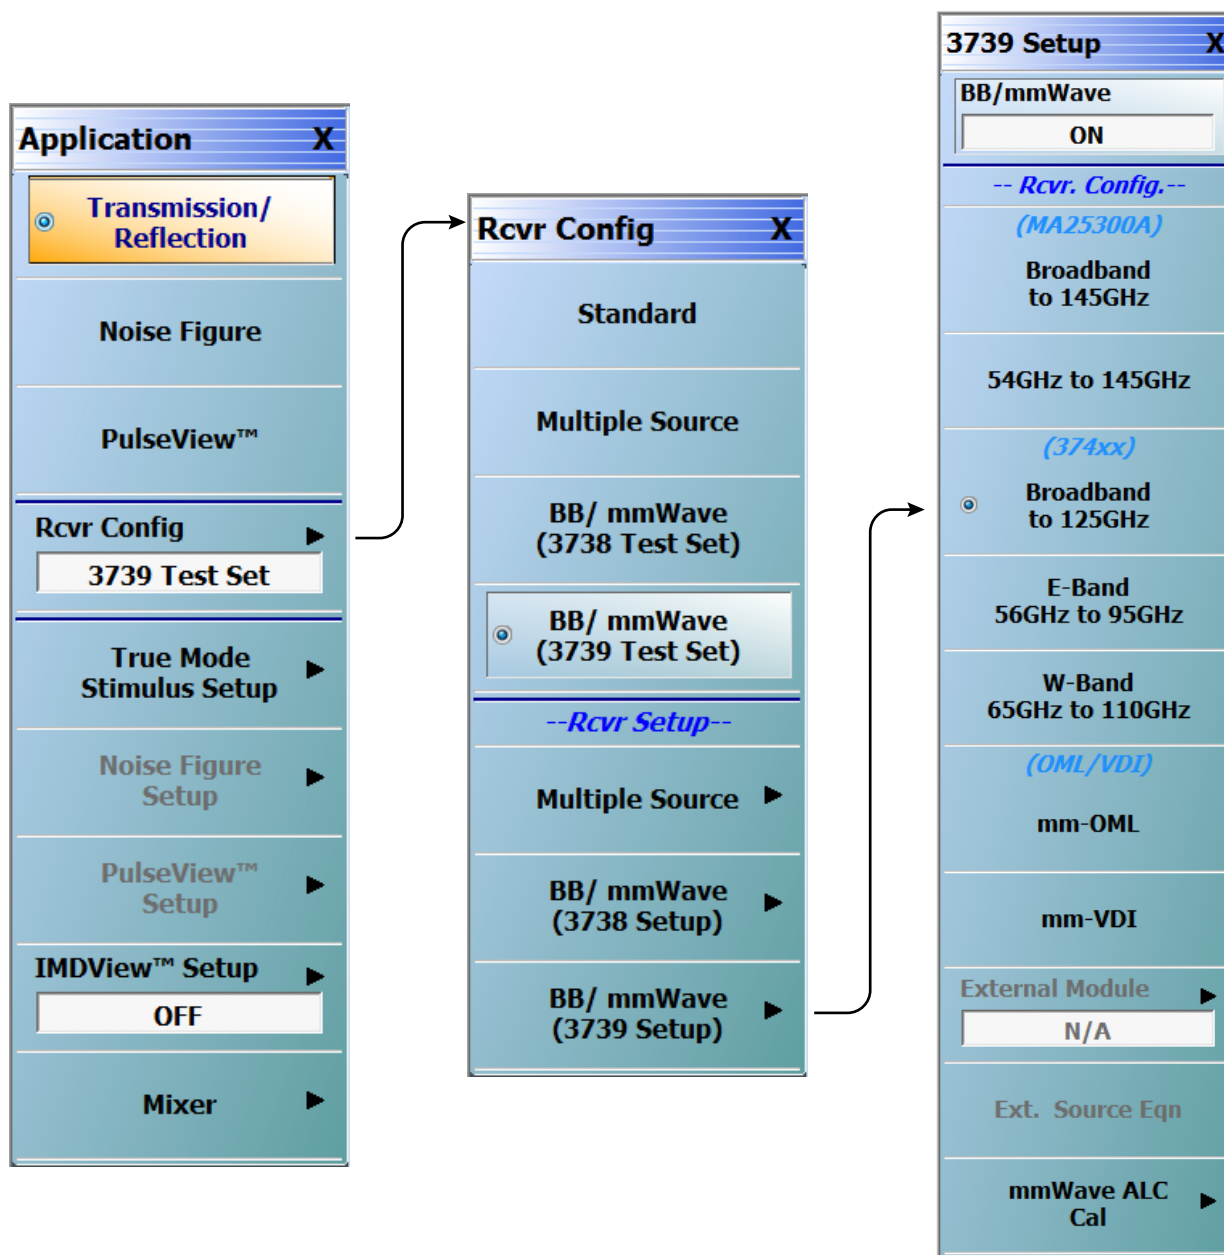

Figure 3-10. 3739 Setup for Broadband Modules
5. Select Broadband to 125 GHz as shown in Figure 3-10.